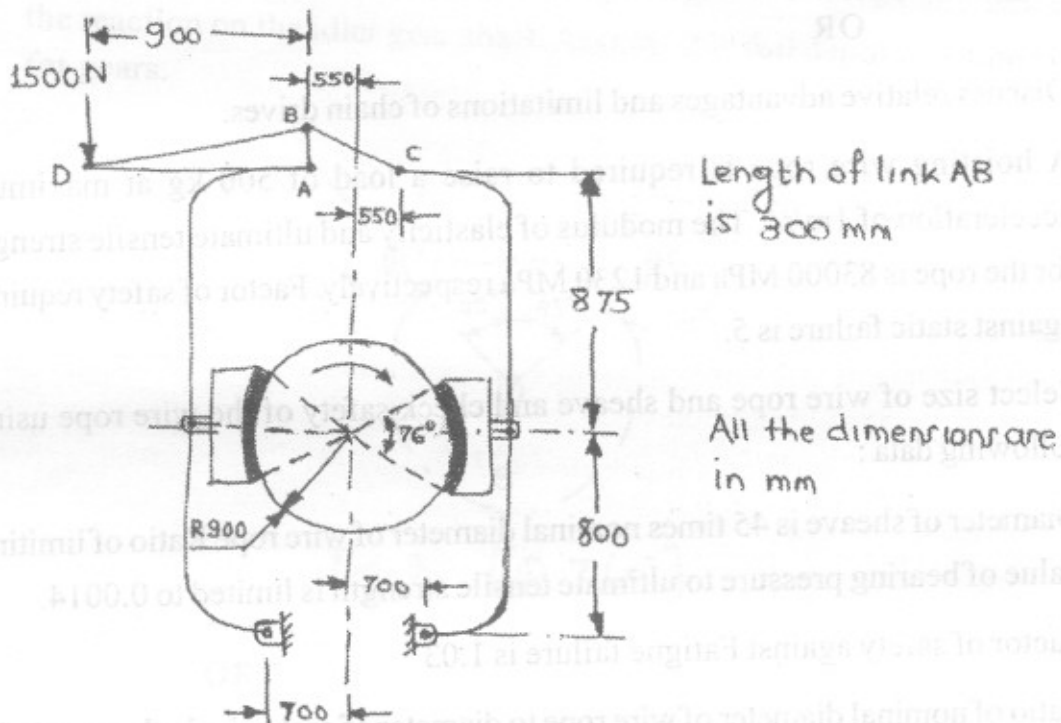

Fig. 1 [Q.4 (b)]
b) A double pivoted shoe brake is as shown in Fig. 1. Find torque, that can be sustained by the brake when the drum is rotating in clockwise rotation.